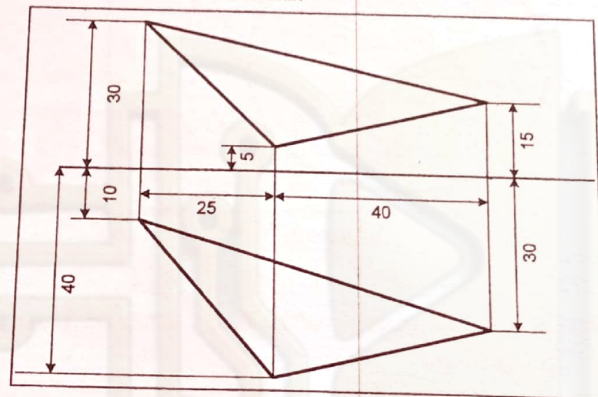

Figure 1
2. Reproduce the given views of the plane and determine the true shape. (Figure1). All dimensions are in mm. 8